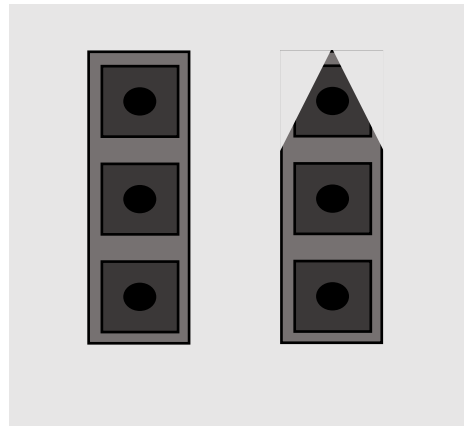

Figure 4
12. Snip the end of carrier tape as shown in Figure 4.